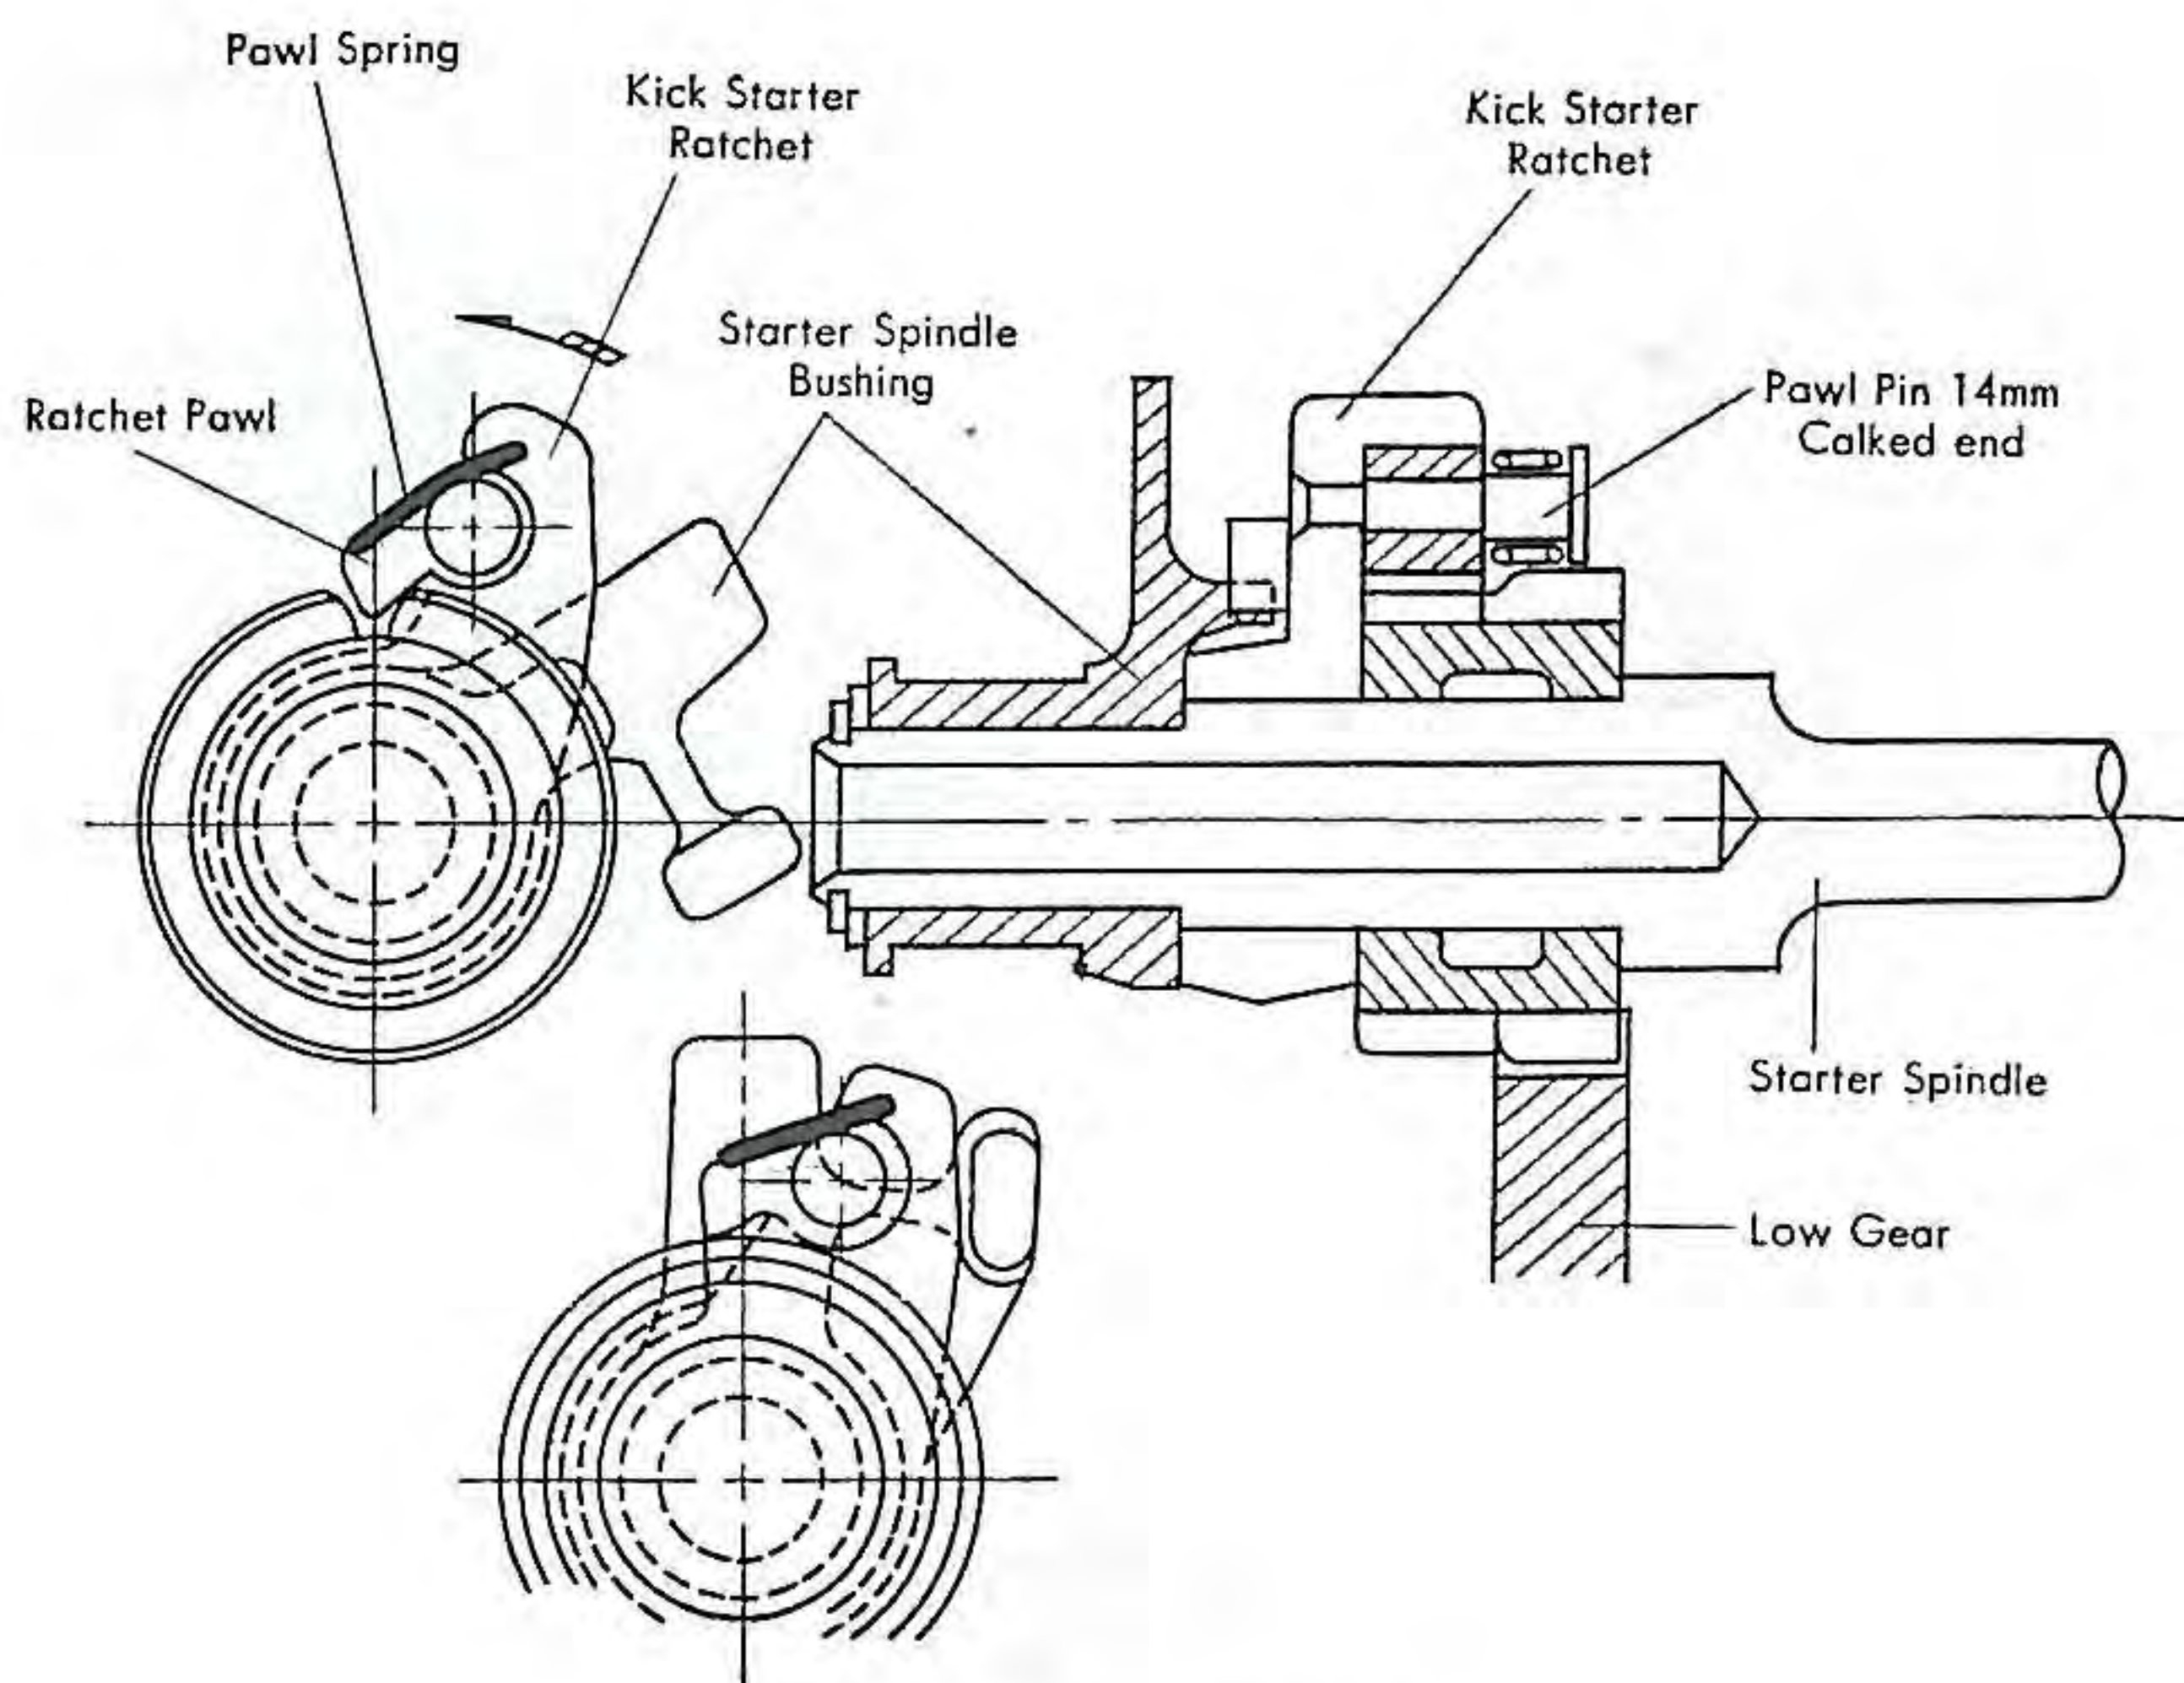
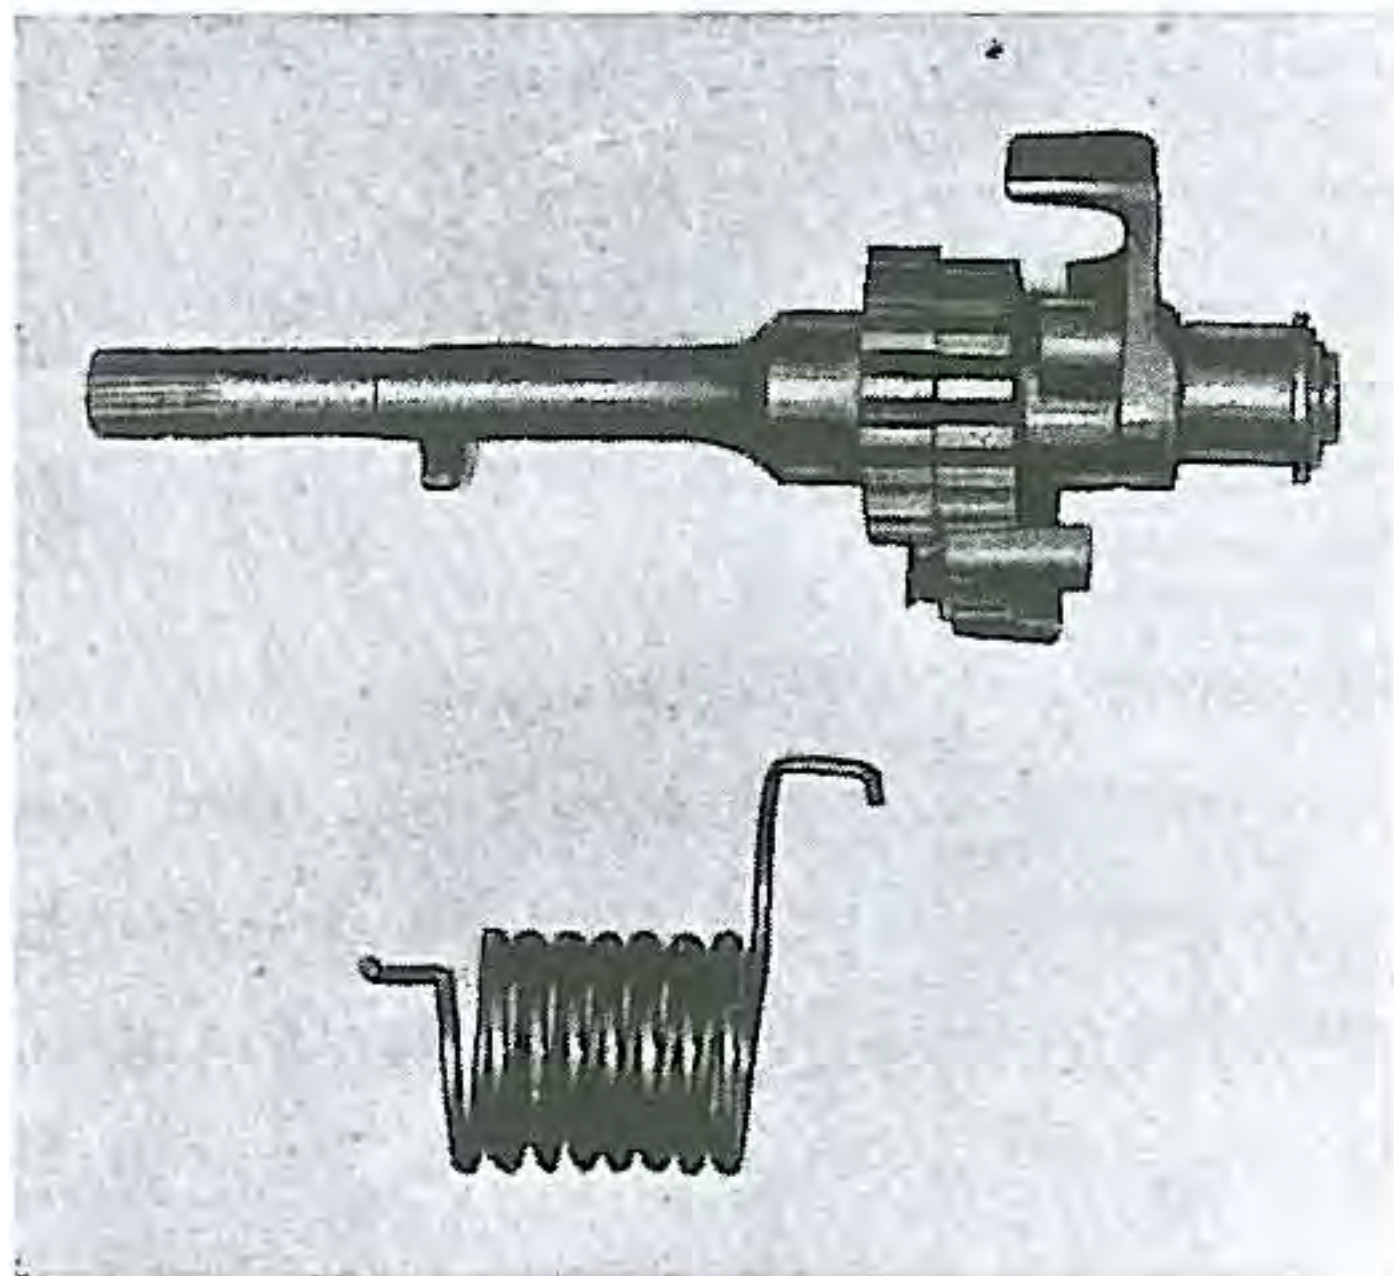

Fig. 88. Mechanism of kick pinion
Fig. 90. Kick starter ass'y
A kick starter is positioned at the rear of the gear case. Its pinion gear is meshed with the counter shaft low gear, which connects with the crank shaft through the transmission main shaft. When the kick pedal is depressed, the pawl on the ratchet engages with the starter pinion and rotates the crank. When the pedal is not depressed, the pawl rests on the starter spindle bushing, preventing interference with the pinion. (Fig. 88)
- (1) Place the engine upside down on a suitable stand and remove the under crank case, after the parts enclosed in L. crank case cover and R. crank case cover have been removed. Unhook the coil spring attached on the upper crank case, for kick spindle.
- (2) Then the transmission shaft, counter shaft and kick spindle with their respective gears, bearing and bushing can be detached from the upper crank case. (Fig. 88) (Fig. 90)